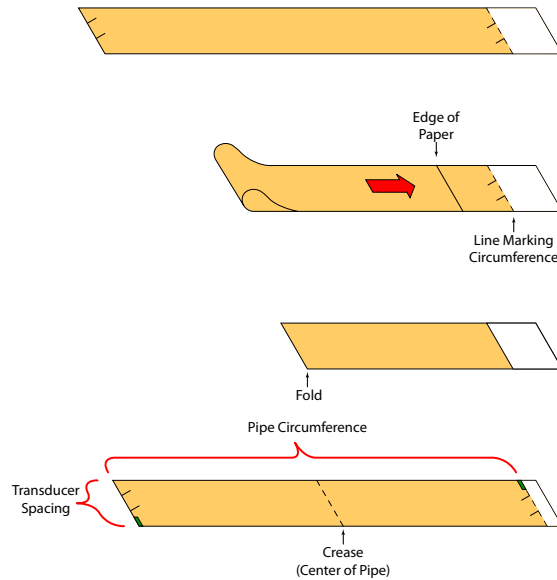

Figure 24: Bisecting the pipe circumference
2. Mark the intersection of the two ends of the paper to indicate the circumference. Remove the template and spread it out on a flat surface. Fold the template in half, bisecting the circumference. See Figure 24.